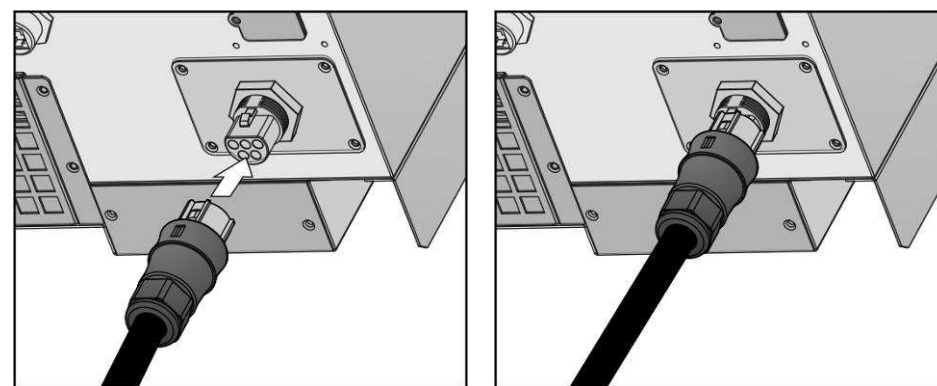

Figure 2
- Step 3 .Remove the screws that secure the wire terminal cover, and carefully remove the cover. Alternatively, remove the connector as shown in Figure 2.